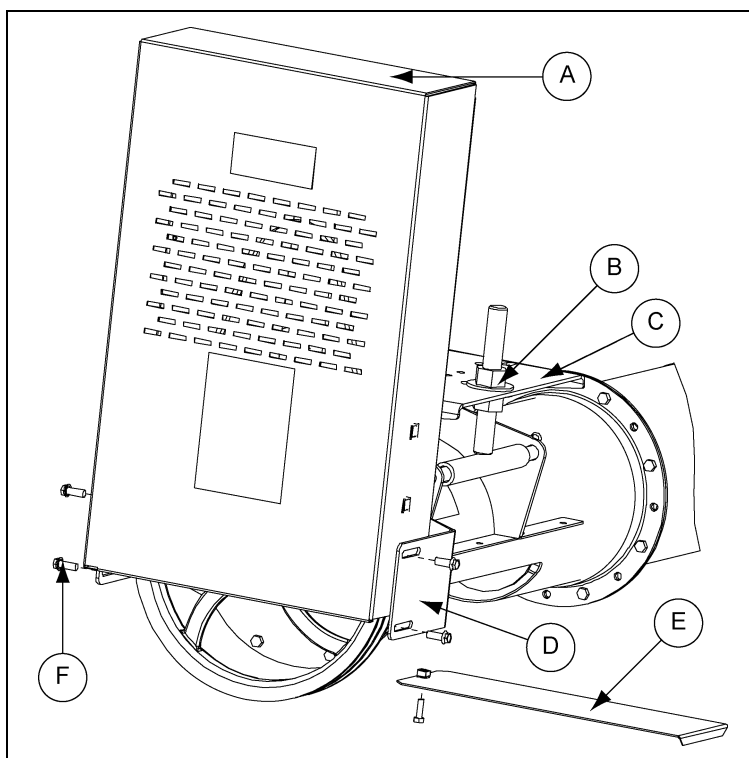

Figure 4K
1. With the belts properly tensioned, remove the bottom belt guard cover (E) and slip belt guard down over the motor shaft.
2. Bolt the belt guard (A) to the belt guard mounting brackets (D), the brackets should still be loose at this time.
3. Align the motor shaft and the flight drive shaft in the belt guard's slot, making sure that the belt guard (A) DOES NOT contact either pulley and tighten down the belt guard mounting brackets (D) to the bearing plate. (See Figure 4K.)
4. Once the brackets are tightened, slide the bottom cover back into place and secure with supplied bolt (F).